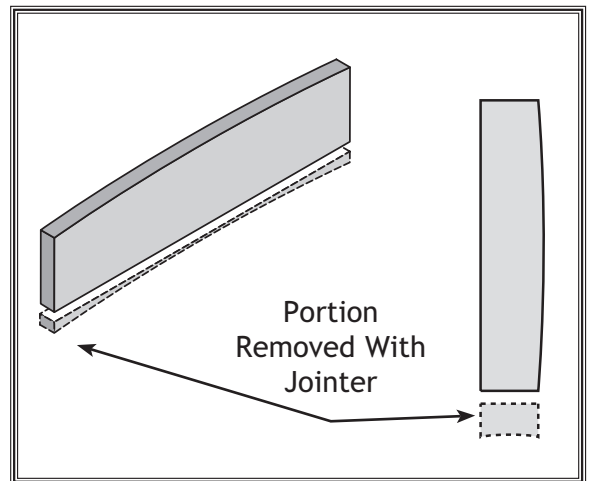

Figure 39. Illustration of edge jointing results.
5. If your workpiece is cupped (warped), place it so the concave side is face down (**Figure 39**) on the surface of the infeed table.